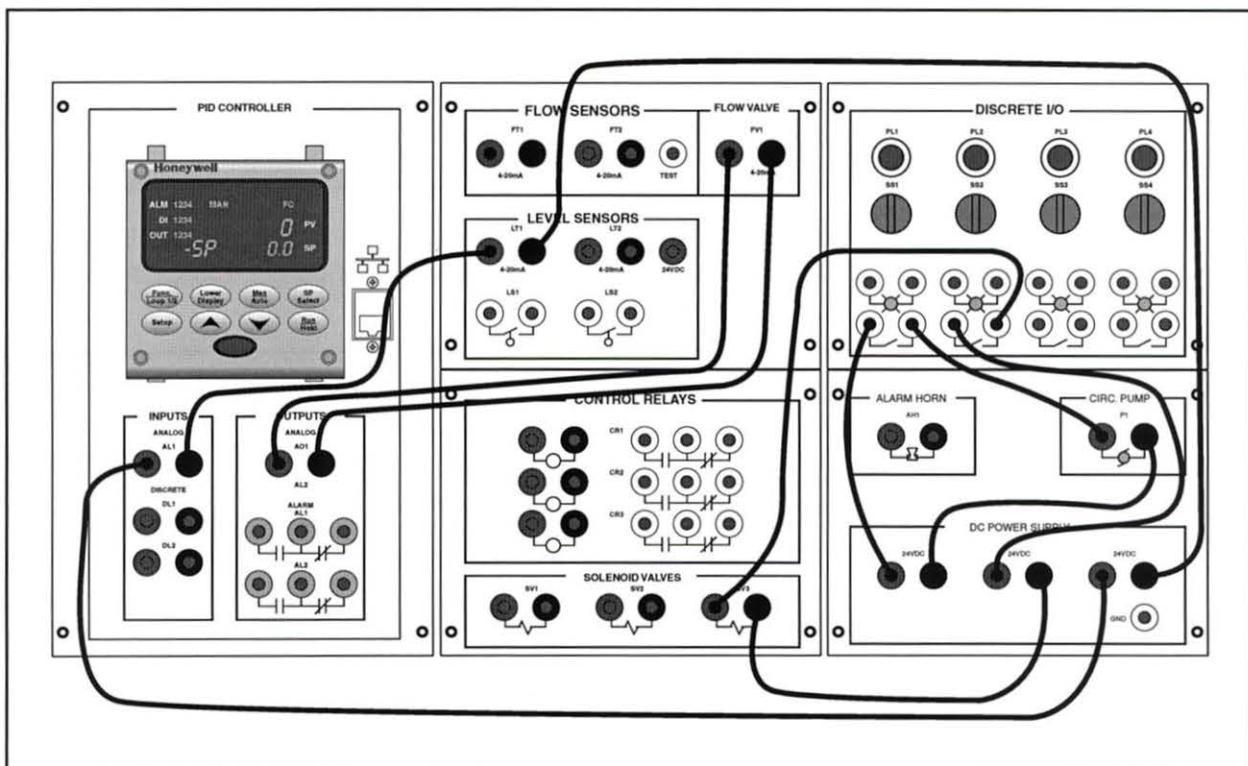

Figure 55. Connections for Closed Loop Level Control
E. Make sure the circuit is still connected as shown in figure 55. If it is not, reconnect it.